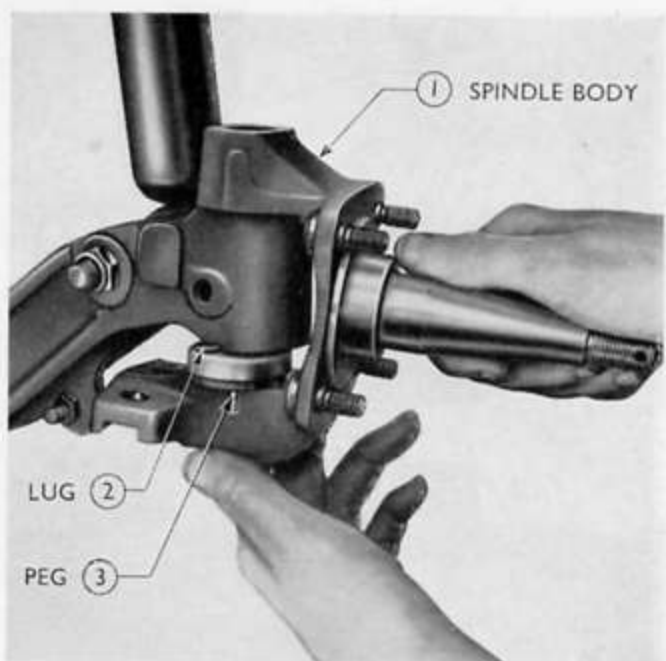

Fig. 9
4. **Align the lugs** on the thrust bearing shield with the slot across the lower face of the axle eye and fit the spindle body and thrust bearing assembly to the axle beam (see Fig. 9).